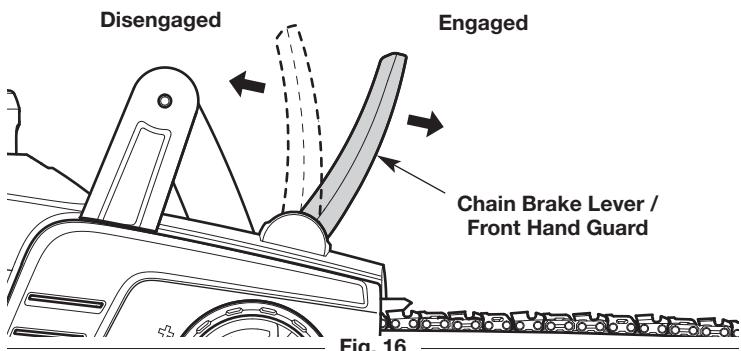

Fig. 16
2. Make sure the front hand guard / chain brake lever is pulled back in the disengaged position (Fig. 16).
5. While the unit is running, engage the chain brake by pushing the front hand guard / chain brake lever forward with the left hand (Fig. 16). The chain should stop moving abruptly. If it does not, have the unit serviced by an authorized service center.